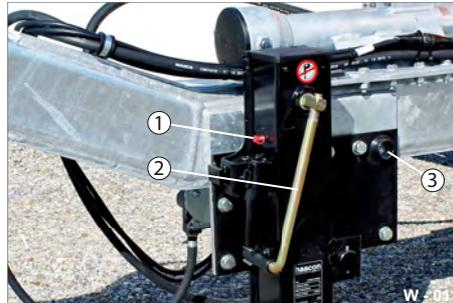
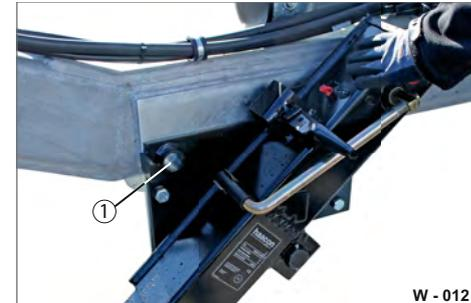

Fig. 11 Swivel support on tongue
Fig. 12 Lubricating cable winch
- ▶ Extend the base of the support winch using the crank (Fig. 10/2; Fig. 11/2).
- ▶ Remove the lubrication nipple cap (Fig. 10/1; Fig. 11/1). Clean the grease nipple with a clean, dry cloth.
- ▶ Lubricate the bolt securing points (Fig. 11/3 & Fig. 12/1) with a bit of grease.